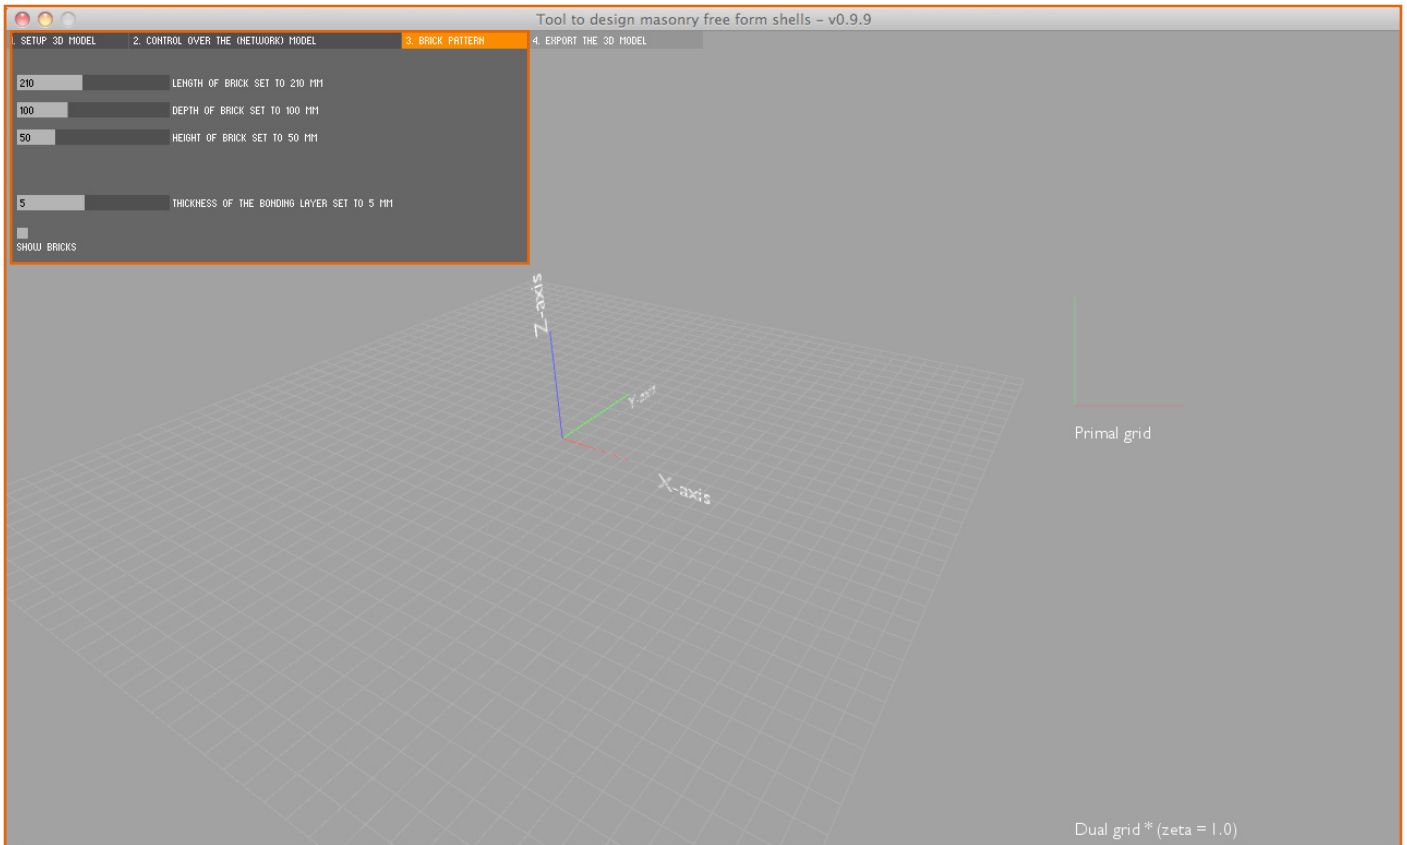

Figure F-10 - Tab 3: Brick pattern, with the option to show or hide the brick.
2. Switch the toggle-button 'Show/Hide Brick'. (located under the four sliders to set the dimension of the brick); (Figure F-10)
All options regarding the masonry and brick and patterns, as presented below, are located in Tab 3. 'Brick pattern' (Figure F-10).